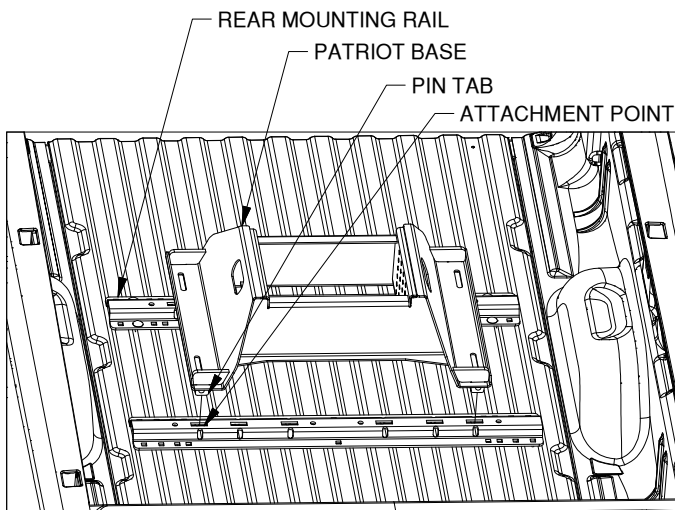

Figure C3: View into truckbed looking back at tailgate.
- 2. Position the forward mounting rail.** For this step the base which will be used in the mounting rails is required. Place a mounting rail into the truck bed in front of the rear mounting rail. Place the base over the rail attachment points and carefully lower it until the pin tabs pass through the attachment points on the rear mounting rail. Attach the forward mounting rail to the forward mounting points on the base. The base should rest flat against the top of the rails, See figure C3. With the base still attached ensure that the forward rail is centered in the truck bed.